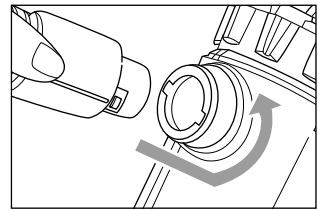

Fig. 3
- Insert the suction device (M) into the air inlet opening (G) by slightly rotating it until it locks (Fig. 3).